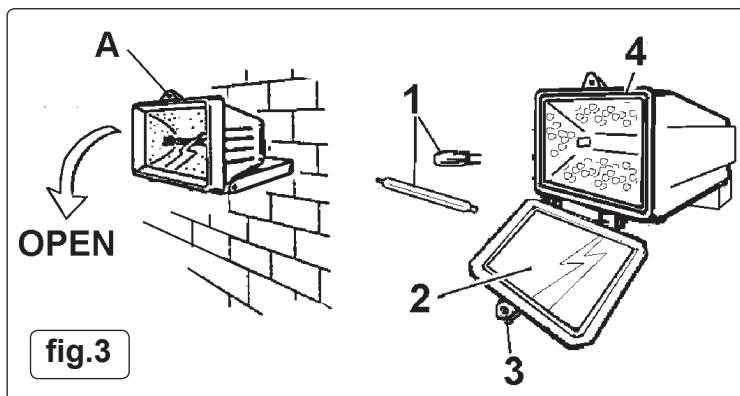

fig.3
- 3.2.1. Loosen the screw on the top of the front cover (fig.3.A) and undo allowing the front cover to open. Check to ensure the screw is retained in the front cover tab (3) by the washer.